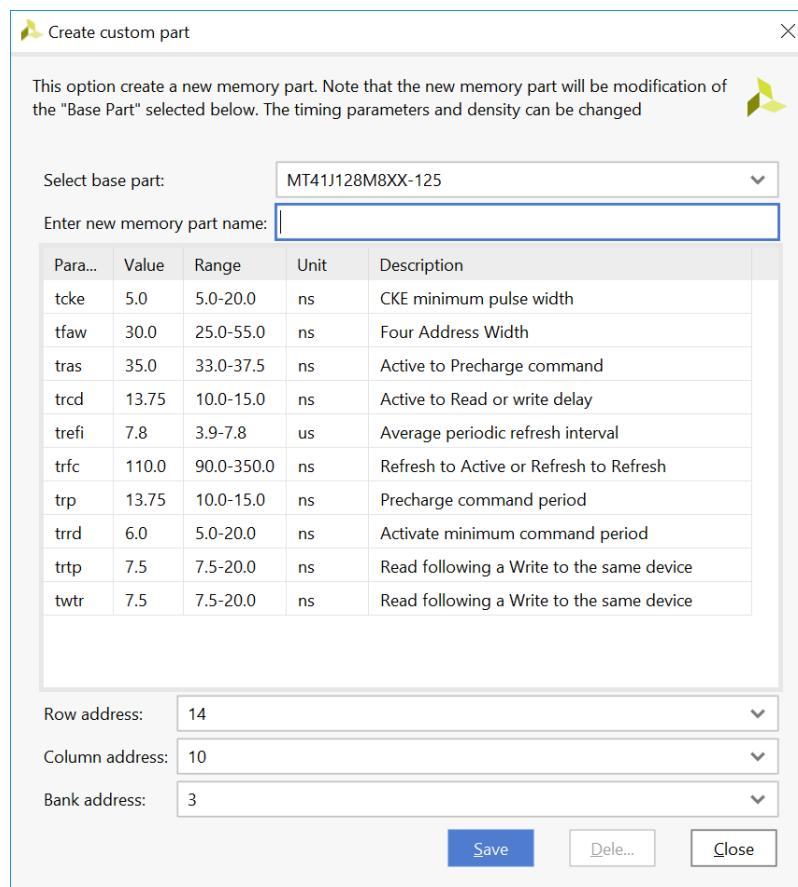

Figure 1-19: Create Custom Part
2. Select the appropriate memory part from the list. If the required part or its equivalent is unavailable, a new memory part can be created. To create a custom part, click the **Create Custom Part** below the **Memory Part** pull-down menu. A new page appears, as shown in Figure 1-19.